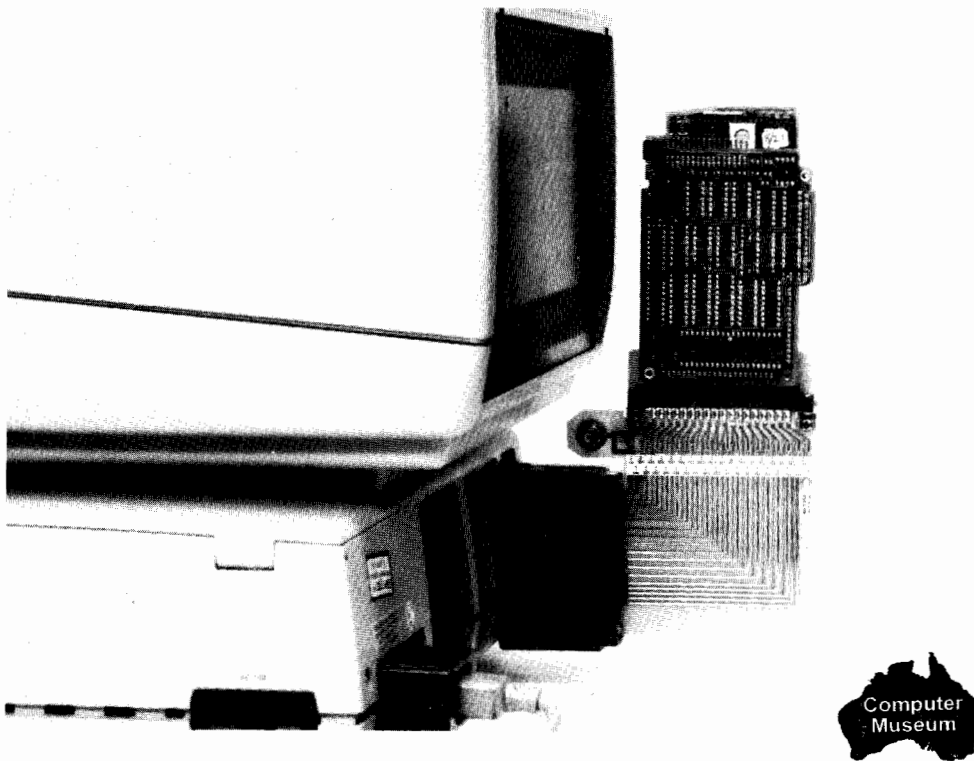

Figure 4-6. SA Test Set-Up
- Install the interface test fixture in one of the computer's I/O slots as shown in Figure 4-6. Then, install the interface on the interface test fixture.